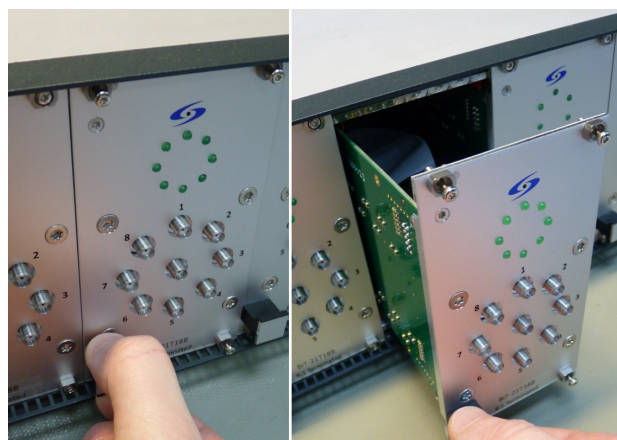

Figure 14: Removing a module
3. Carefully pull the module out (see Figure 14)